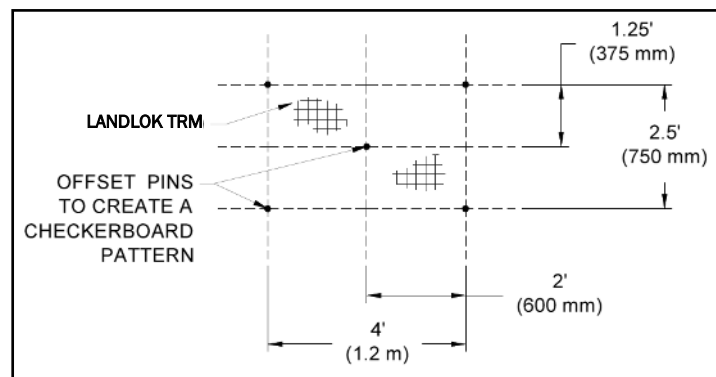
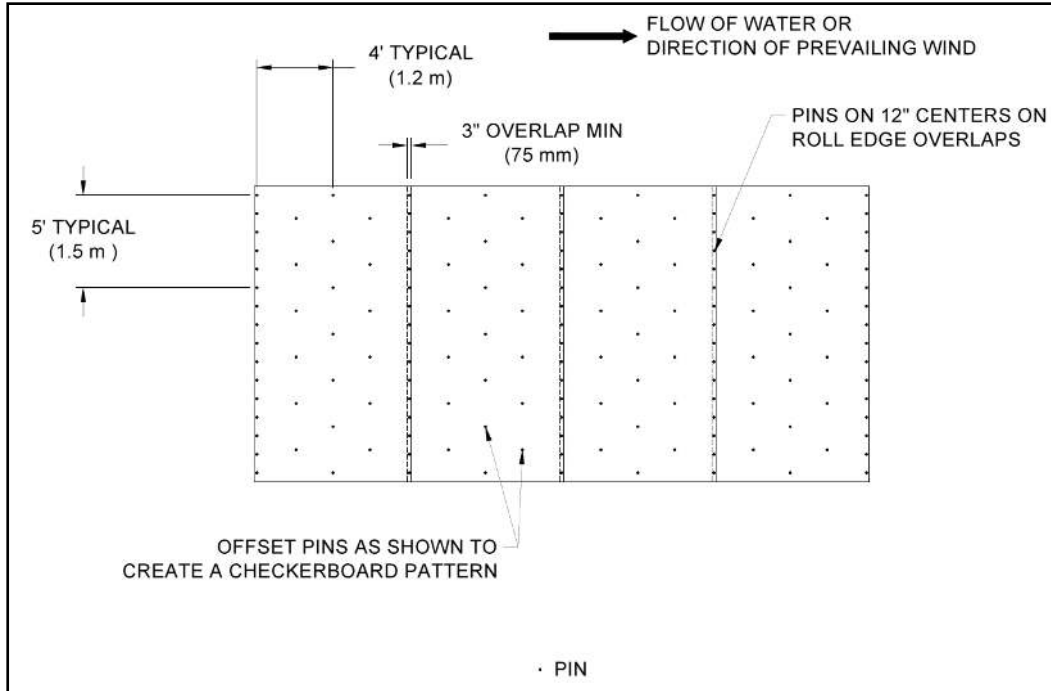

Figure 12: Example Pin Pattern
Figure 13: Example Edge Overlap Pattern
6. Place the next LANDLOK panel by laying the LANDLOK roll so that the roll end points towards the COS trench (Figure 9), with a 3 inch (75 mm) overlap created at adjacent panel edge locations. Ensure that adjacent panel edges maintain a minimum 3 inch (75 mm) overlap during *LANDLOK Laydown*. (Figure 13)
7. Secure LANDLOK panels in place using pins across the channel surface according to the project's engineered design. Pin placement should reflect a staggered checkerboard pattern across the channel surface for best results (Figure 12 and Figure 13).
- Roll edges shall be overlapped a minimum of 3 in (75 mm) with pins placed on 12 in (300 mm) centers (Figure 13).
10. Continue to work down the length of the channel by repeating steps 6 through 9 overlapping each adjacent LANDLOK panel by 3 inches (75 mm) (Figure 13). The last LANDLOK panel should terminate on the Terminal Channel (TC) trench with pins on 12 in (300 mm) centers